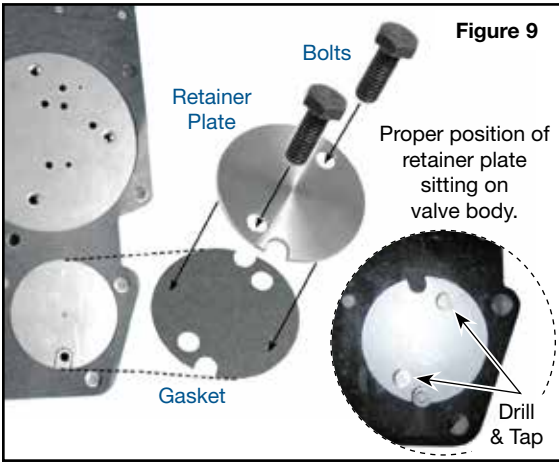

Figure 9
i. Install the Sonnax gasket, valve body retainer plate and two screws and torque to 80-100 in-lb. (9-11Nm.) (Figure 9).